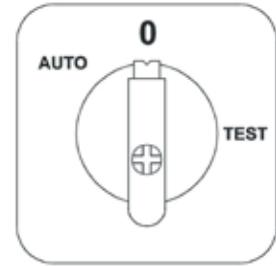

Figure 3
The operational mode is selected using the operating switch on the central unit [figure 3].
- Turn the operating switch to the 0 position [figure 3].